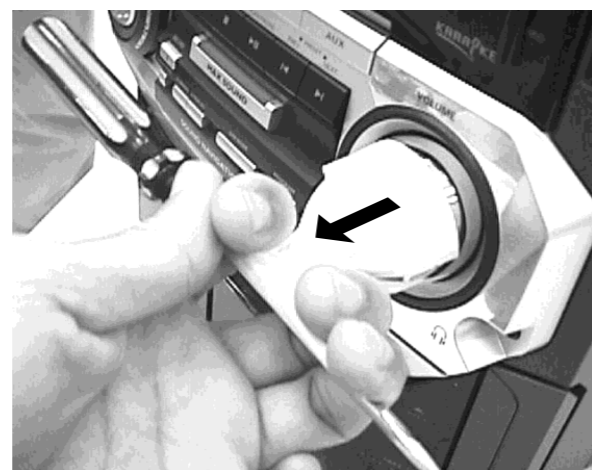

Figure 4
- 2) Place a small screw driver in between the tape & knob (see figure 3) to give more leverage in pulling out the knob as shown in figure 4.
- 3) Do likewise for the Jog Rotary knob (pos 138). You may have to rotate the knob to provide the most exposed area during application of the packaging tape.